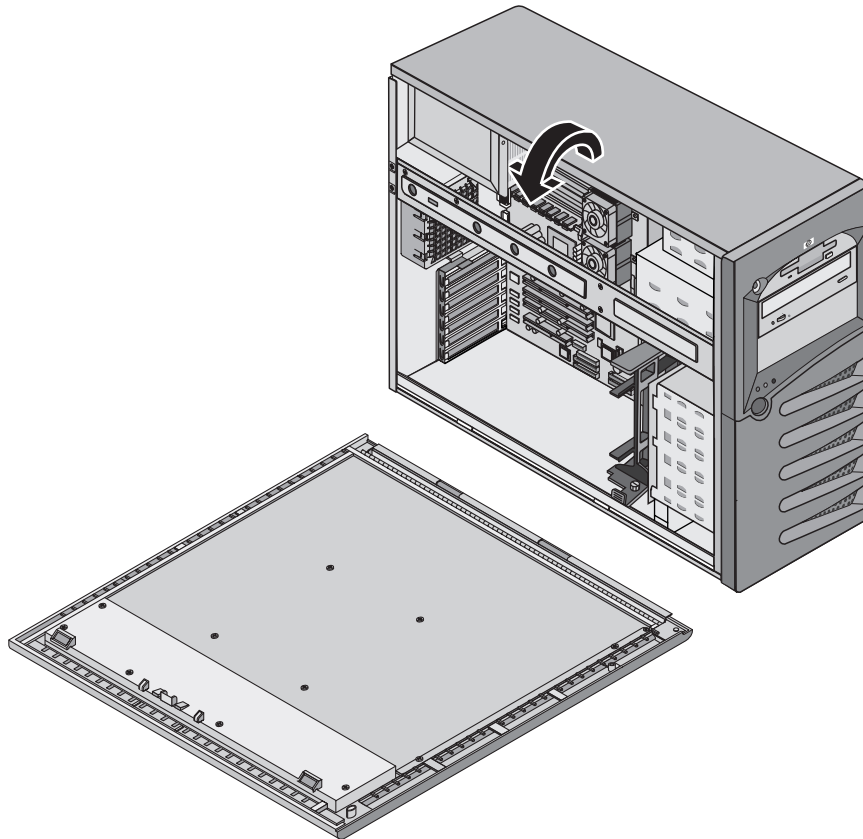

Figure 2-4: Side panel (open)
- The system board modules, power supply, fan assembly, and PCI cards are accessible from the side panel. Refer to Figure 2-4.
3. Lift the latch and open the panel. Refer to Figure 2-4.